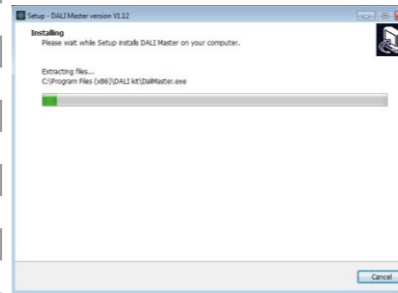

Figure 5 Starting Installation
**Step 5:** Starting installation as shown in **Figure 5**.